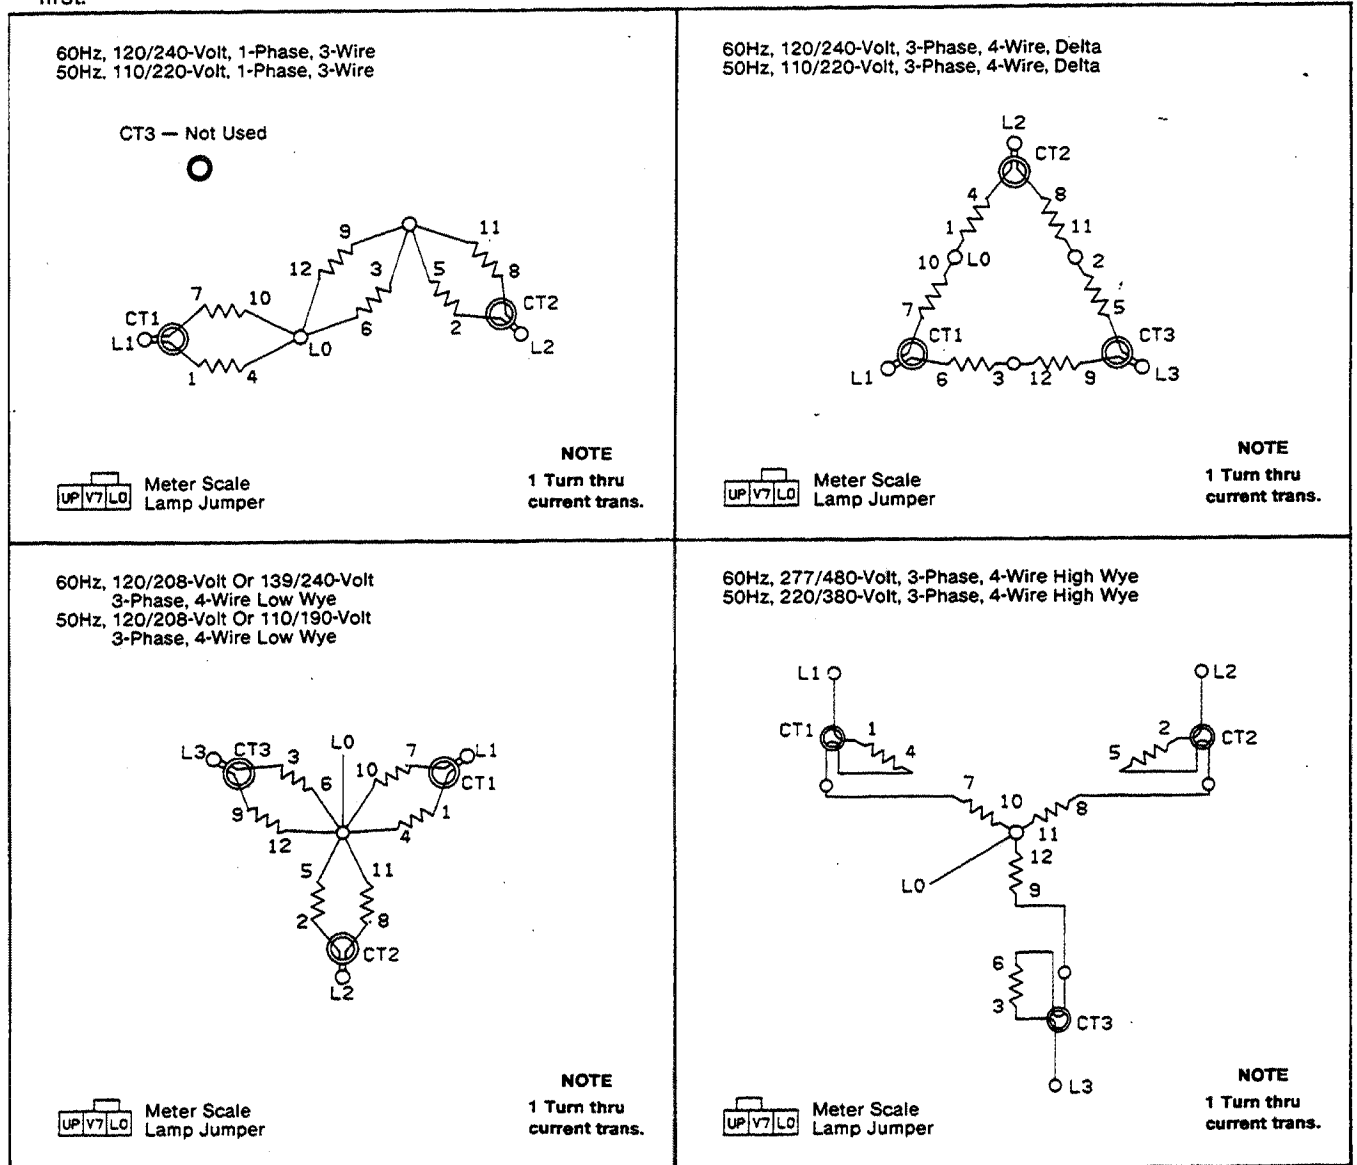
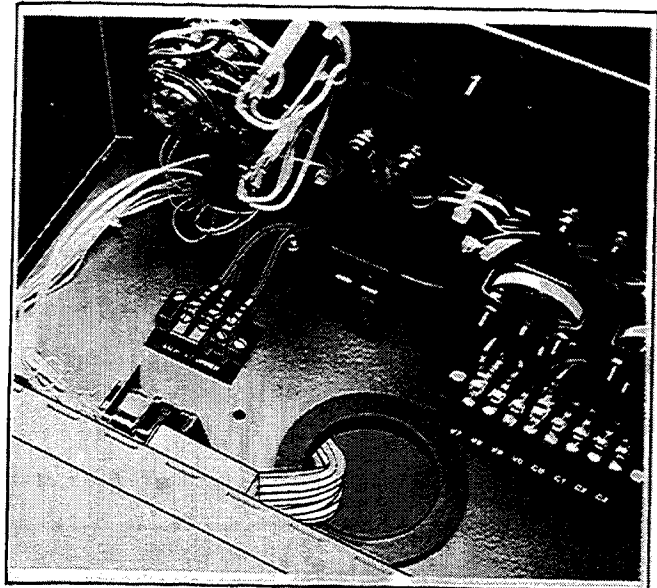

Figure 5-1. Generator Connections
Figure 5-2. Meter Scale Lamp Jumper
3. Select desired voltage connection from Figure 5-1. Route leads through current transformers and connect leads per diagram for desired voltage.
4. If controller is equipped with meters, remove controller cover and reposition meter scale lamp jumper (see Figure 5-2), if necessary, to match proper position for desired voltage as shown in Figure 5-1. Reinstall cover.